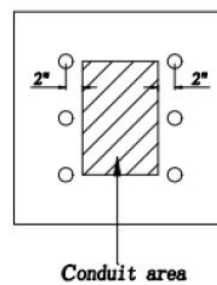

Figure 2
2. Install underground conduits in area for conduits. Figure 2